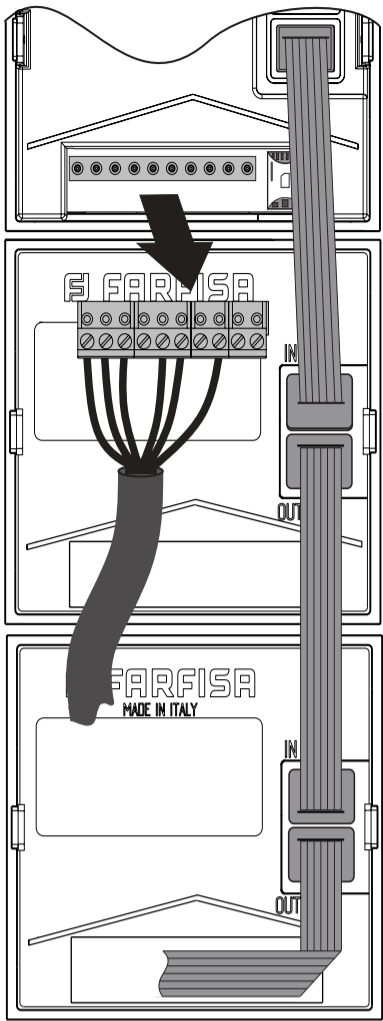
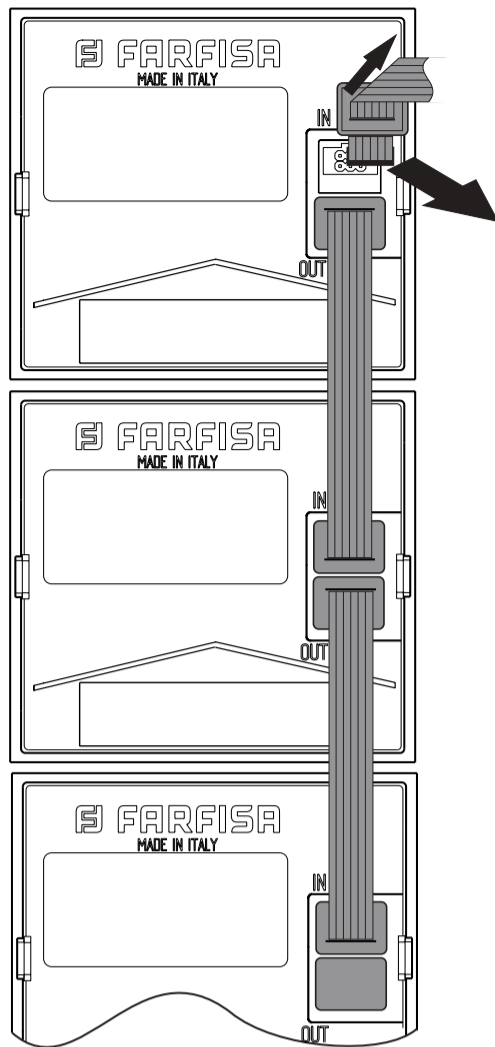
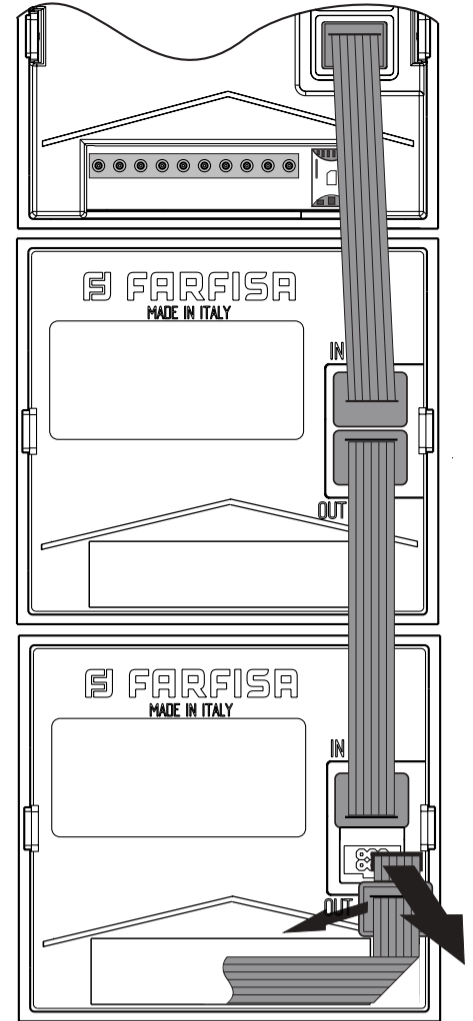

Fig. 10a
Fig. 10b
Fig. 10c
- Remove the terminal block from the AB3G module (figure 10a) or, if it is the second or third wall box, remove the long flat cable from the first module (figure 10b). Remove any long flat cable from the last module that connects the module to the next wall box (figure 10c).